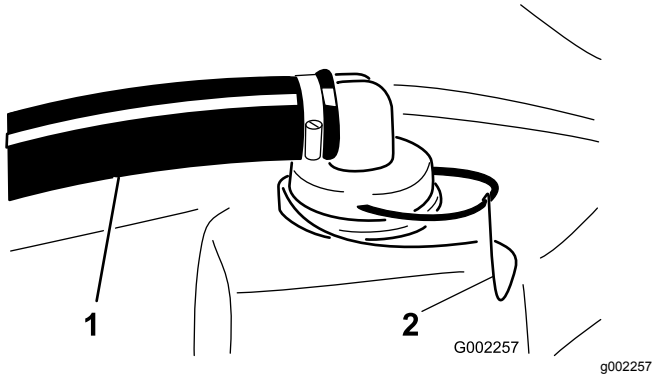

Figure 66
2. Remove the retainer from the red fitting attached to the large hose on the top of the tank (Figure 66).
3. Disconnect the hose from the tank (Figure 66).